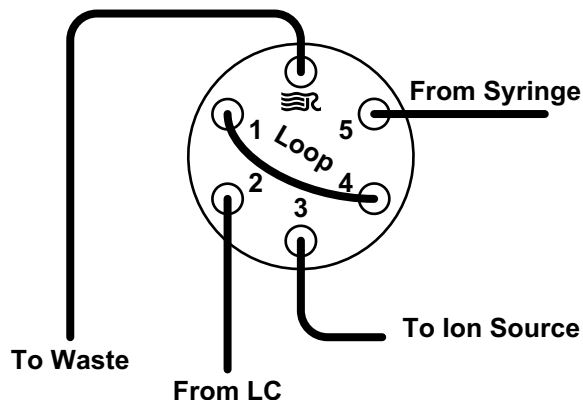

Figure 4-3. Divert/inject valve, showing plumbing for auto loop injection
- b. Connect the other end of the tubing fitted with a nut and a ferrule to port 5 of the divert/inject valve. See Figure 4-3.
- b. Connect an appropriate length of tubing fitted with a nut and a ferrule to port 3 of the divert/inject valve. See Figure 4-3.